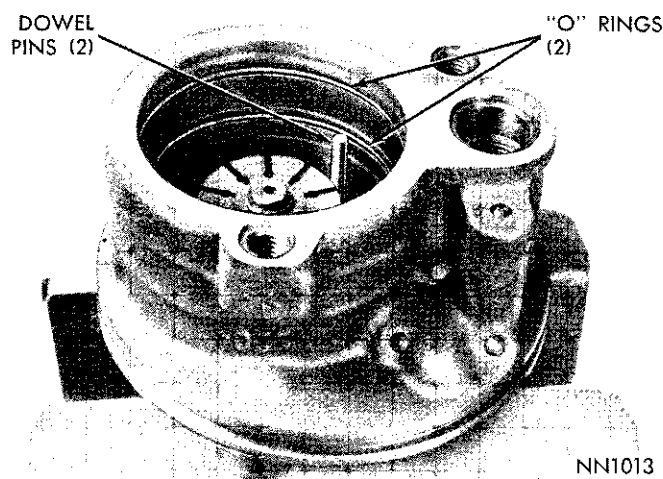

Fig. 13—Rotor and Thrust Plate Installed
(7) Install two dowel pins in holes in pump cavity. Carefully insert drive shaft, rotor and thrust plate assembly in pump cavity indexing locating holes with dowel pins (Fig. 13).